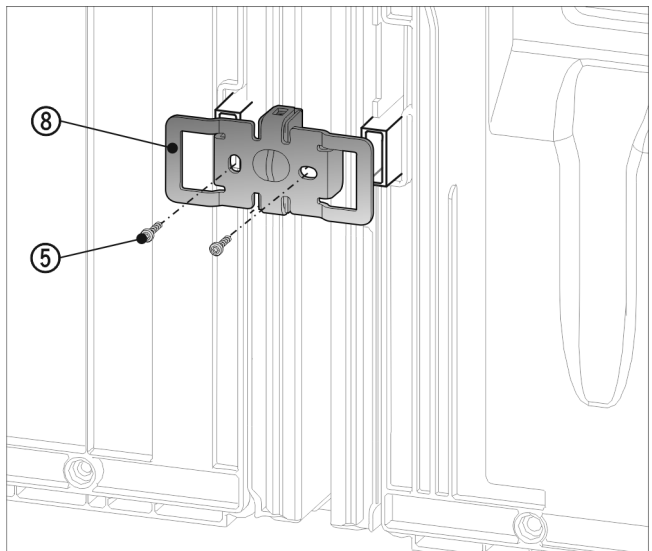

Fig. 23
- ▶ Slide the bracket Fig. 23 (8) on once more with the slots over the retainer for the wall spacers.
- ▶ Screw in tightly with the 2 screws Fig. 23 (5).